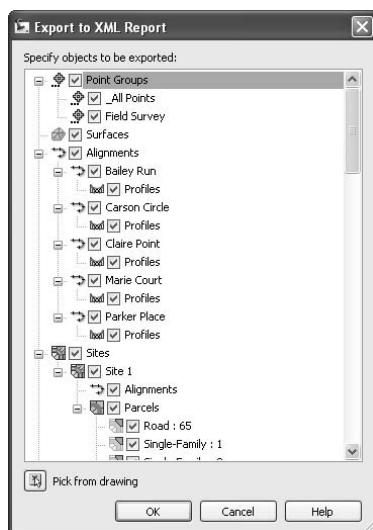

Figure 2.10
5. Click the `Pick from Drawing` button (shown on the bottom left of Figure 2.10), select the lot numbers for 38, 39, and 40, and then press ↵. When you pick from a drawing, only the selected items are exported.